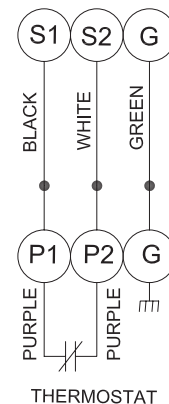
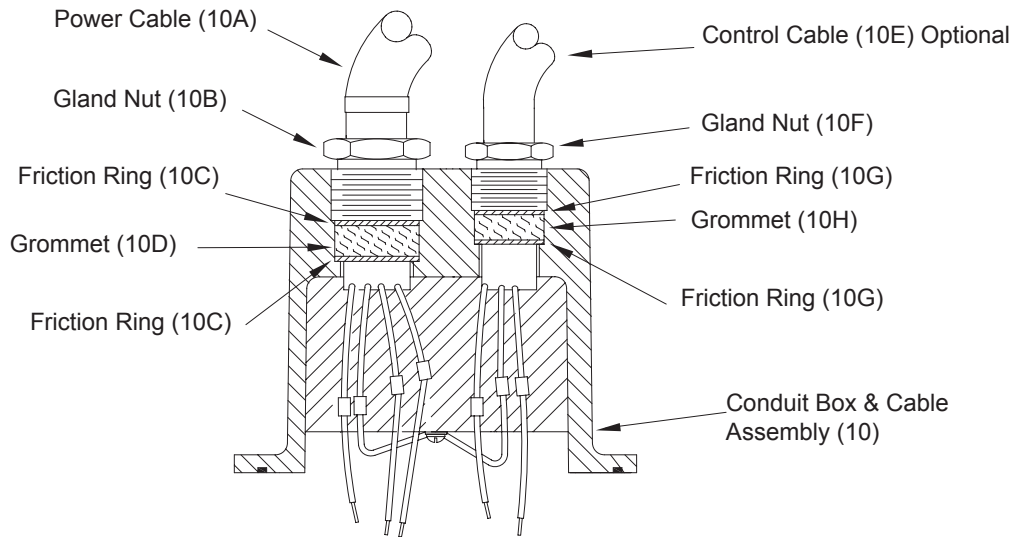

FIGURE 6
FIGURE 7
Check power cable (10A) and control cable (10E - if used), on conduit box (10), for cracks or damage and replace complete conduit box assembly (10) if required (see Figure 7). Bring motor wires through wire opening in top of housing (2), position square ring (11) in conduit housing (10) and reconnect motor leads to power cable and temperature sensor leads to control cable (if equipped) using connectors (12) and (50) as show in Figure 6.
Refill with cooling oil as outlined in paragraph F-1.3. Position conduit box (10) and square ring (11) over opening. Place lockwashers (4) on cap screws (6), apply thread locking compound to cap screws (6) threads and torque to 16 ft lbs. Remove gland nuts (10B) and (10F), friction rings (10C) and (10G), and grommets (10D) and (10H) from conduit box (10) inspect and replace if required.(see Fig. 7)